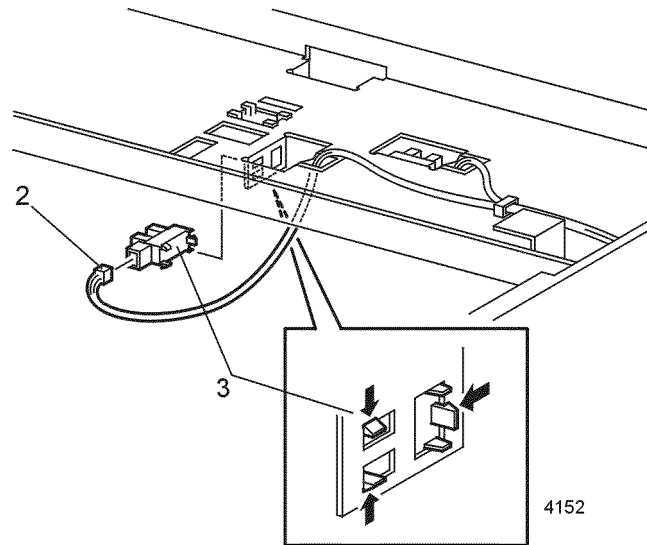

Figure 1 No Paper Sensor
2. Disconnect P/J610 from the No Paper Sensor (Figure 1).
3. Release the three locking tabs that secure the sensor (Figure 1). Remove the sensor.